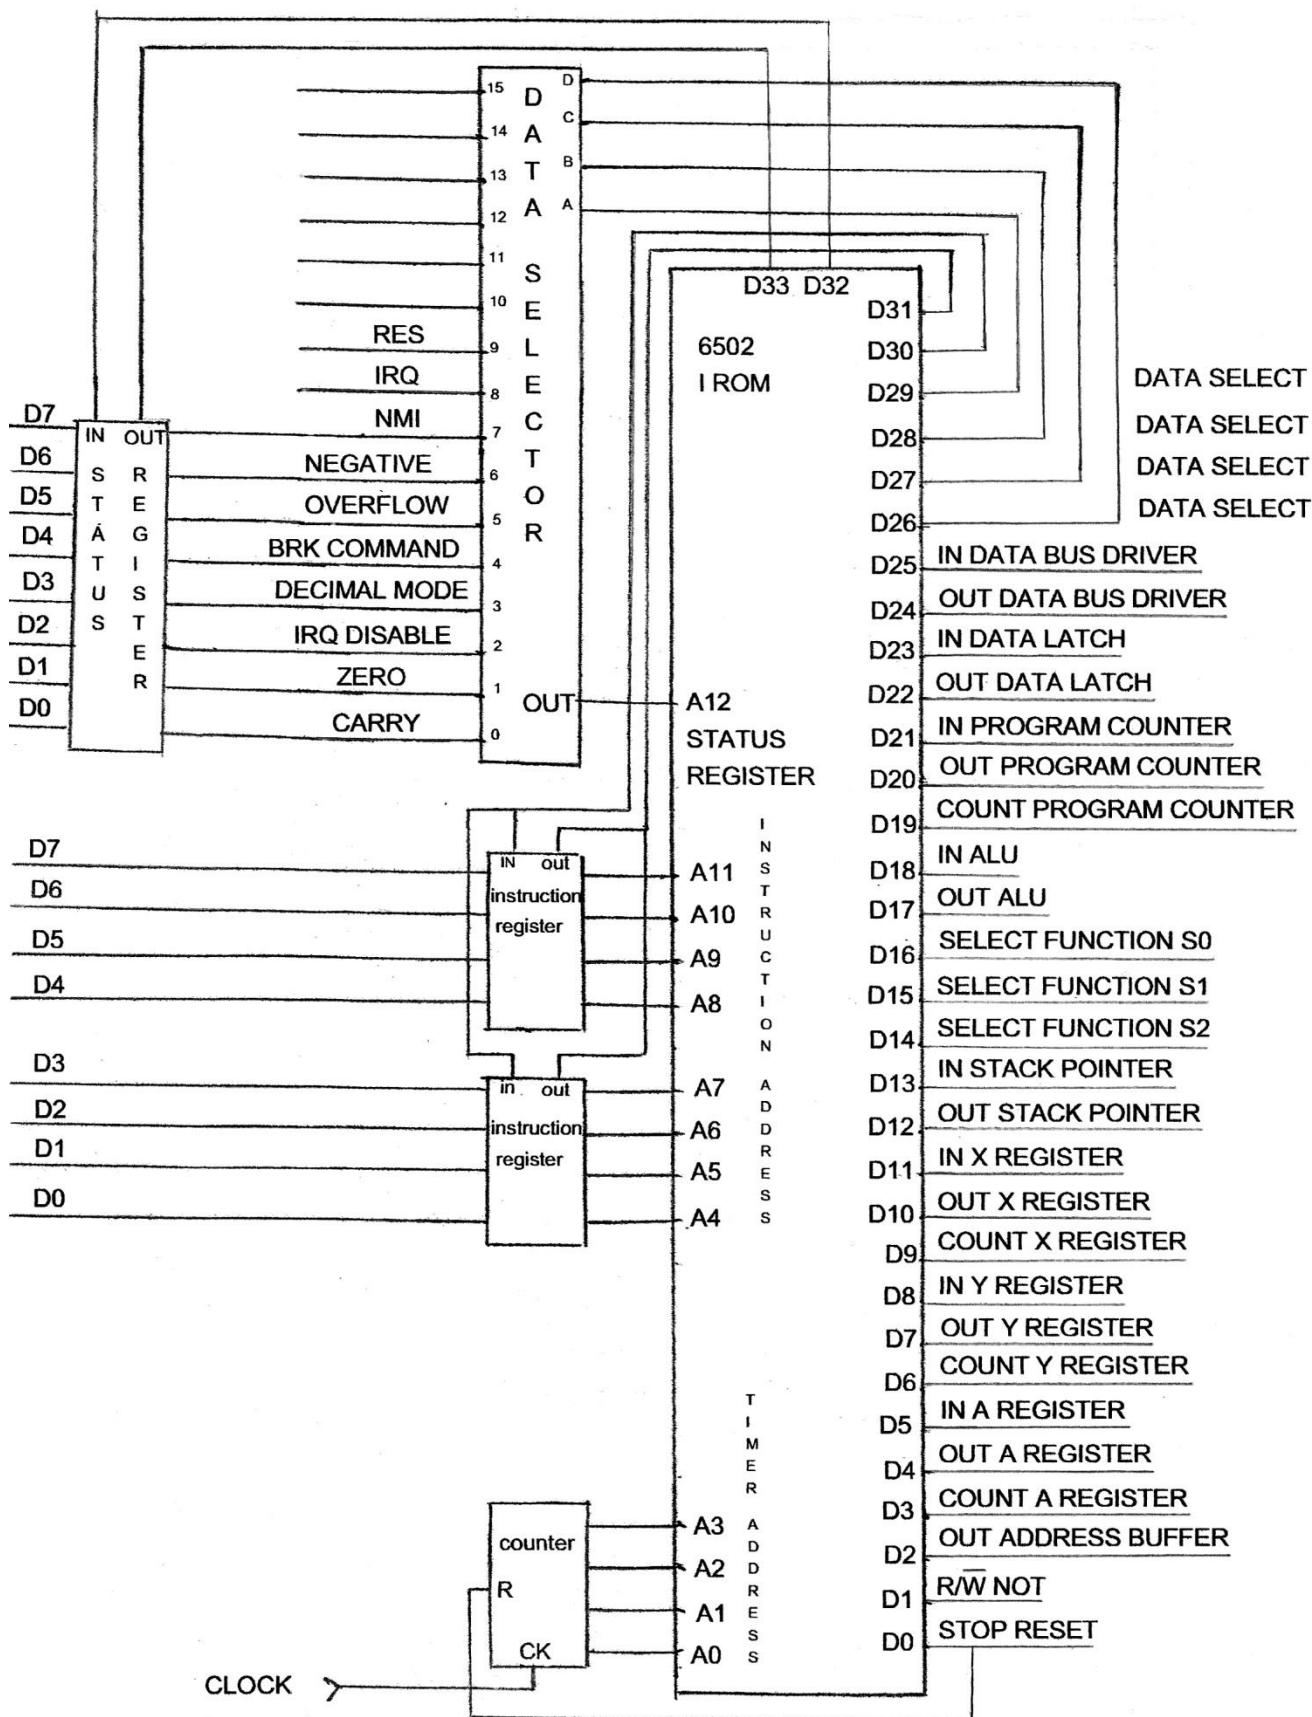
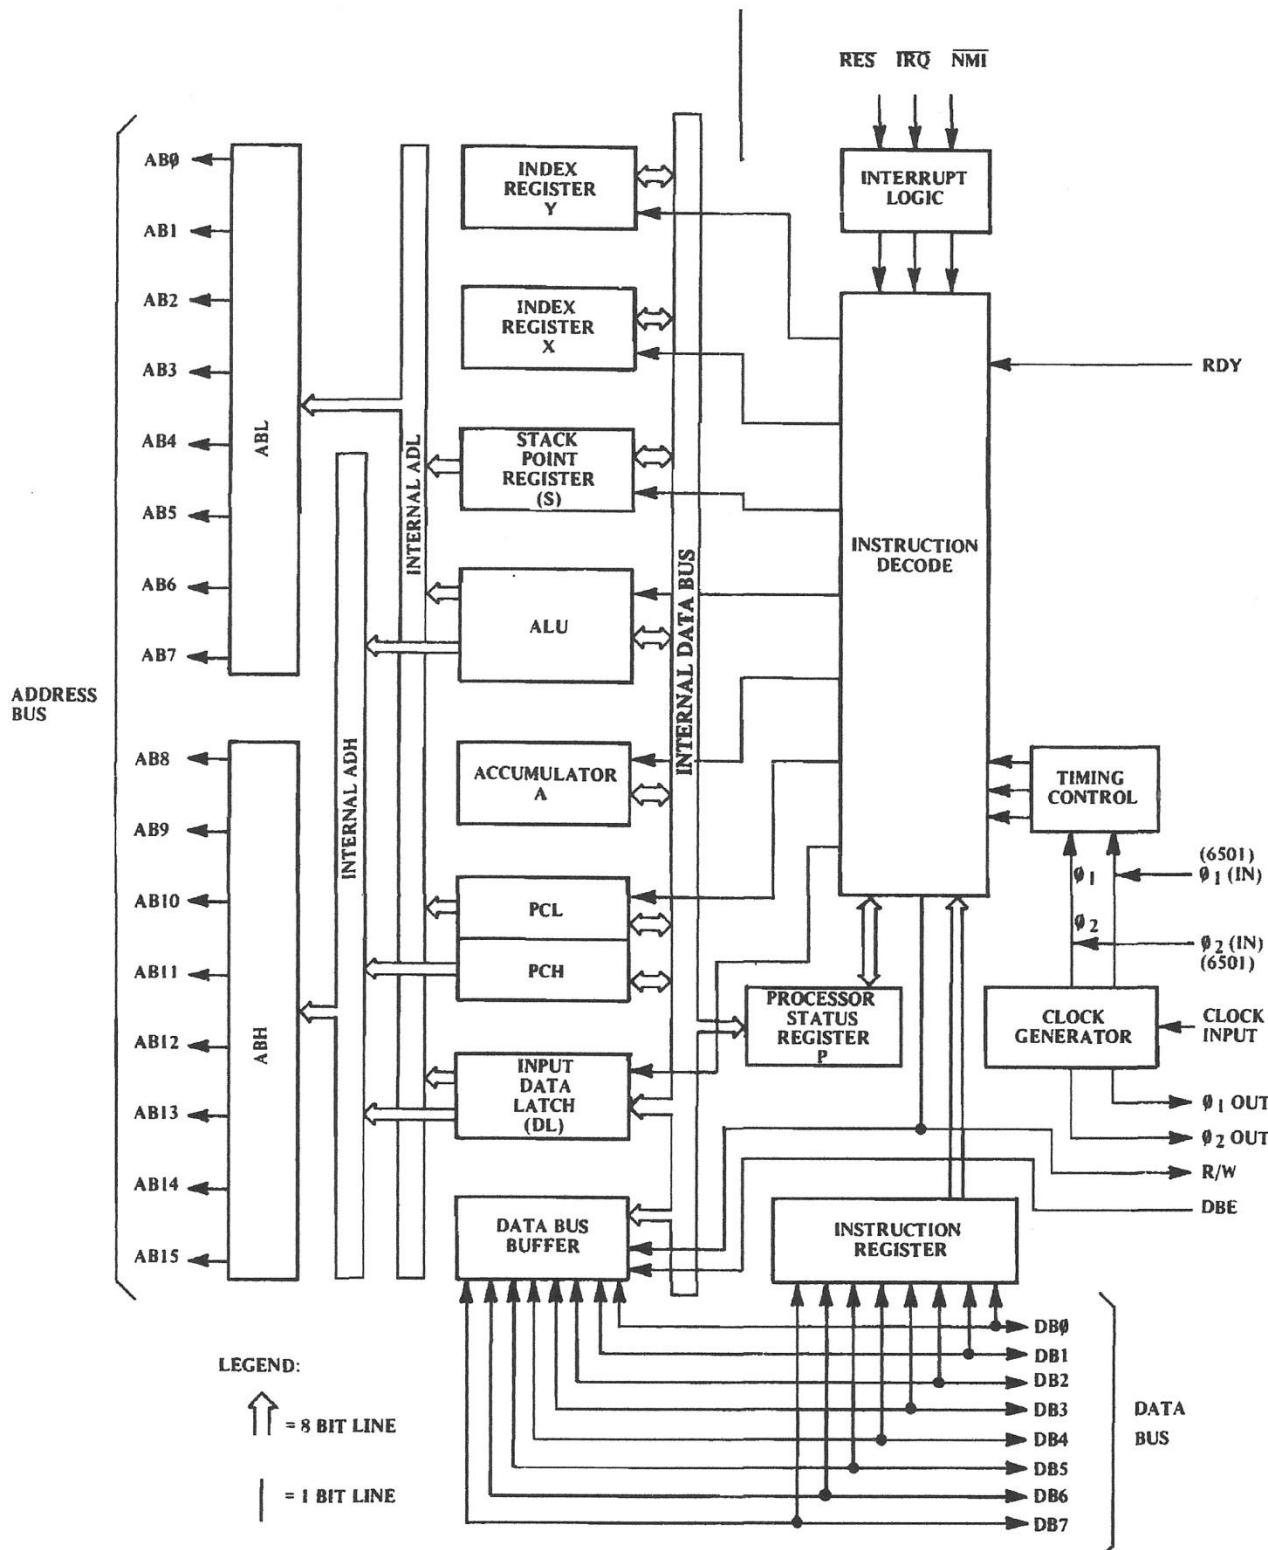
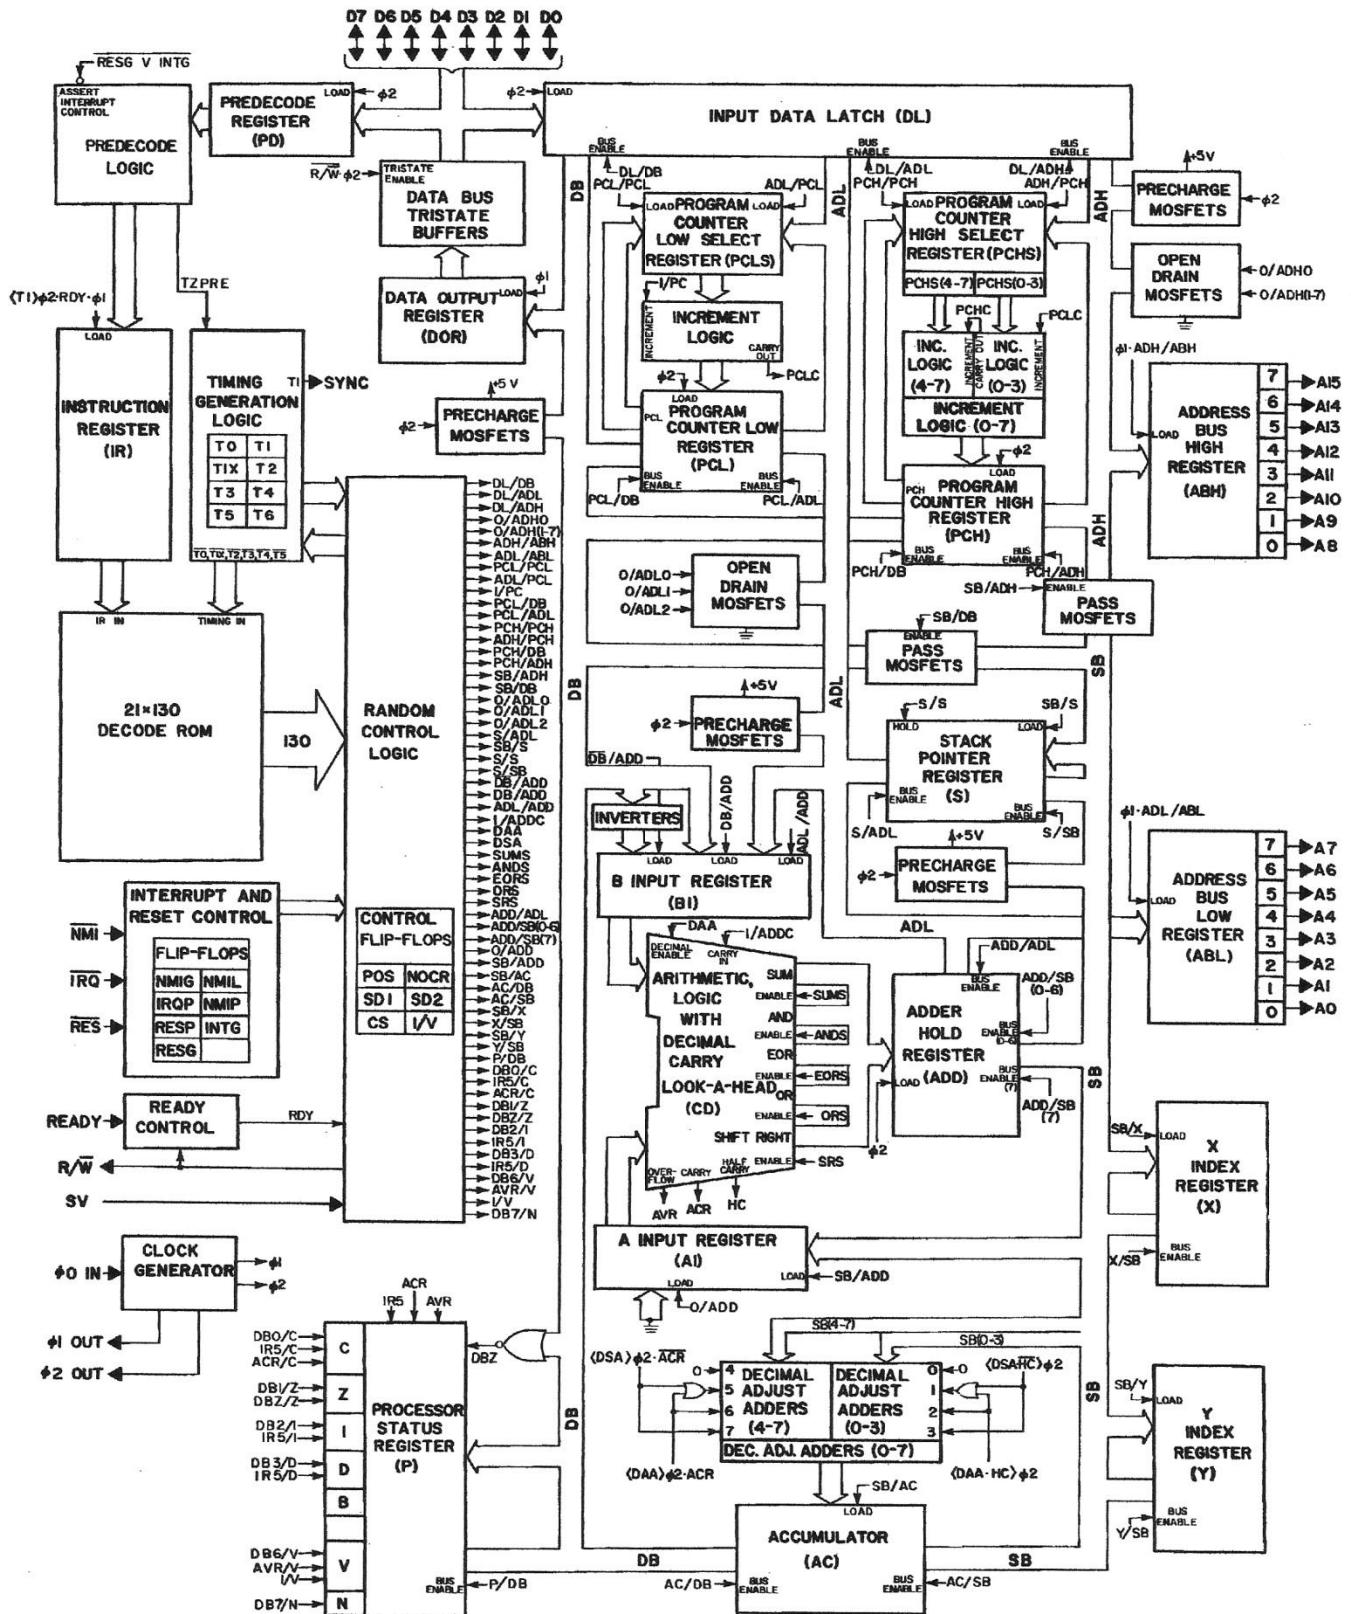

Figure 58. 6502 Timer Controller
Figure 59. Real 6502 block diagram
Figure 60. Real 6502 block diagram in detail
We are going to add address bits and data bits to the first digital timer controller and use it for the 6502 timer controller. A fast running clock will also be added. To be able to execute all the instruction in the 6502 Micro-processor the CPU needs 64 timing signals to control the digital parts inside the CPU. A timing signal is a binary digit that goes from "0" to "1". The 64 timing signals that are needed for the CPU come from the 64 data bits on the timer controller (I) ROM. Each data bit on the I ROM is a timing signal. 16 timing signals for each instruction are programmed into the I ROM. Each timing signal comes from one address in the I ROM selecting one of the 64 data bits to output a "1". The instruction register selects the starting address in the I ROM for the instruction and the clock increments the addresses on the I ROM 16 times to get the 16 timing signals. The 16 timing signals control digital parts in the CPU to move numbers around to complete the instruction. Some of the 64 timing signal names are: input X register number, increment the program counter number, output "A" register number, output data latch number, input Y register number, and input the instruction register number. If the instruction does not require all 16 timing signals to complete its instruction, a bit from the I ROM will reset the counter when the instruction is complete and the next instruction will start. Those 64 timing signals are represented on the block diagram (Figure 2) by 8 output lines from the CPU timing control. Note: the 6502 timer controller (Figure 58) only shows 34 of the 64 timing signals. To see all 64 timing signals, look at the "real 6502 diagram in detail" on Figure 60 at random control logic outputs.
Figures 59 and 60 are the real diagrams for the 6502. Figure 59 block diagram is almost the same as our block diagram. The second diagram (Figure 60) has all the details. I threw in those diagrams to show you what we're doing is real.